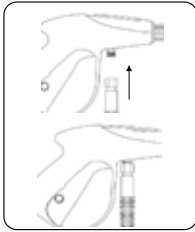

FIGURE 8.1
1. Fix the fitting at the end of the hose to the trigger gun firmly (Figure 8.1).